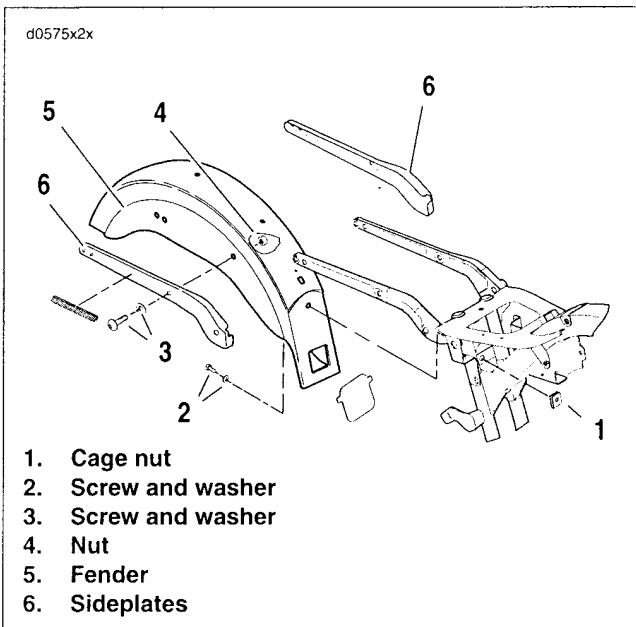

Figure 2-121. Rear Fender: FXD, FXDX & FXDL
1. See Figure 2-121. From under fender, remove screw and washer (2) securing front of fender to cage nut (1) on frame.
3. Remove screws/washers (3) and nuts (4) that hold fender in place and carefully remove fender and sideplates (6).
2. See Figure 2-121. Place fender and sideplates (6) into position. Apply LOCTITE THREADLOCKER 243 (blue) to screw (3) threads. Tighten nuts (4) to 12-18 ft-lbs (16.3-24.4 Nm).
4. Attach front of fender to frame with screw/washer (2) and cage nut (1).